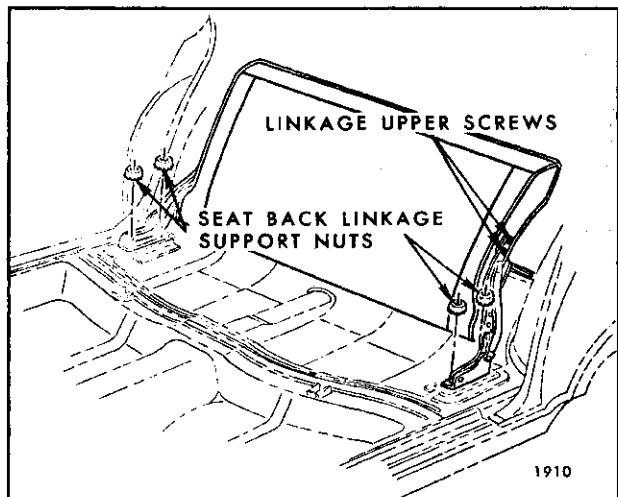
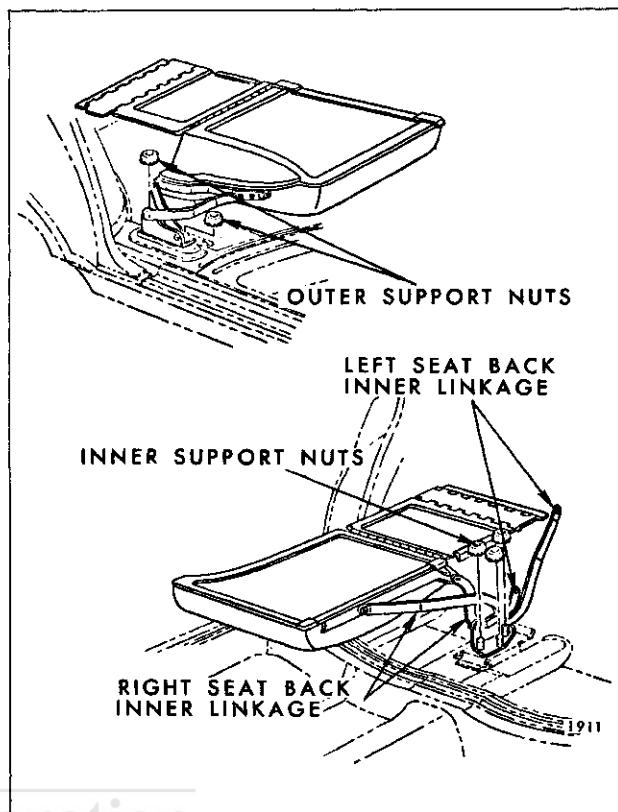

Fig. 15-61—Folding Second Seat Back Supports
Fig. 15-62—Folding Second Seat Back Supports
3. Mark position of folding second seat back linkage supports on floor pan. Remove nuts from both sides of seat back securing linkage supports to floor pan (See Figure 15-61), full width seat (Fig. 15-62) for split seat.
5. Remove nuts securing linkage support to floor pan (See Fig. 15-61), then carefully remove linkage assembly from seat back and floor pan.
3. Remove nuts securing inner linkage assembly to floor pan (See Fig. 15-62).